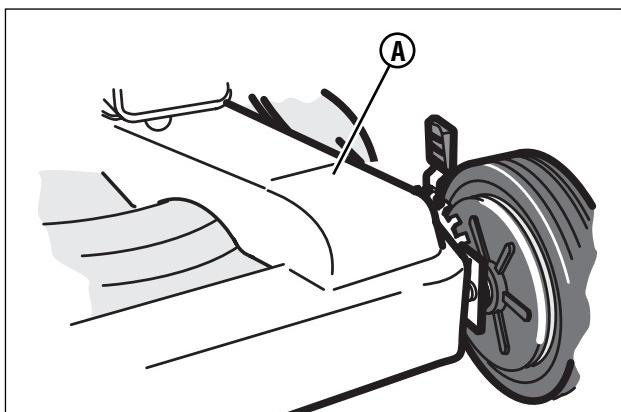

Figure 19: Removing the belt cover
1. Remove the screws that secure the belt cover (**A**, **Figure 19**). Remove the belt cover.